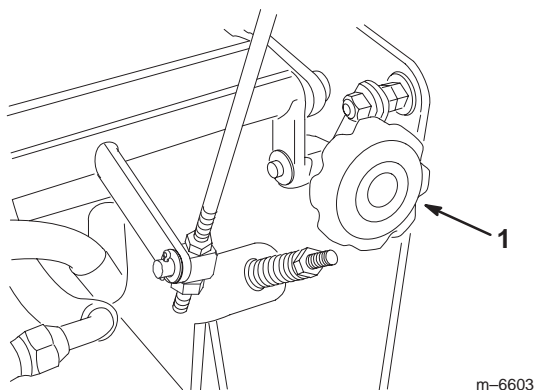

Figure 51
4. If the unit tracks to one side or the other, turn the quick track knob. Turn the knob right to steer right and turn the knob left to steer left (Fig. 51).